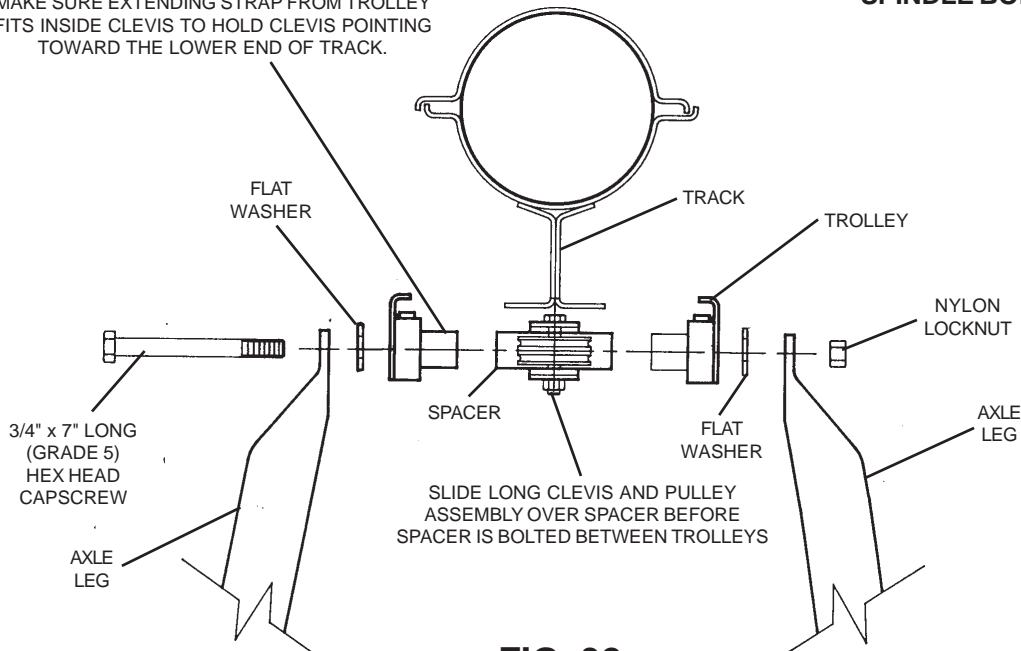

FIG. 32
26. Lift the discharge end of the auger tube with adequate hoist, attaching it about 2/3 of the way from the intake end of the auger. Raise the discharge end of the tube assembly about 6'. Roll the undercarriage into position. Lift the axle legs and bolt trolley and trolley spacer with long clevis and pulley assembly together, using 3/4" x 7" long (grade 5) hex head capscrew, flat washers and nylon locknut. See Fig. 32.